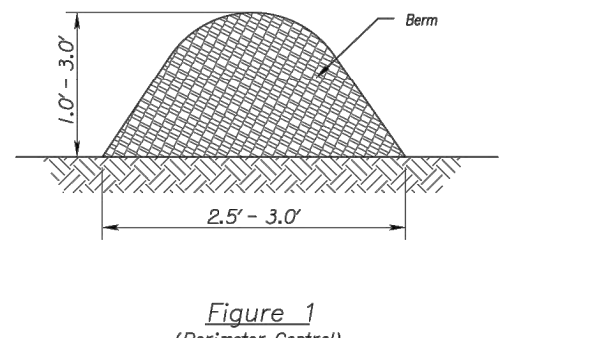
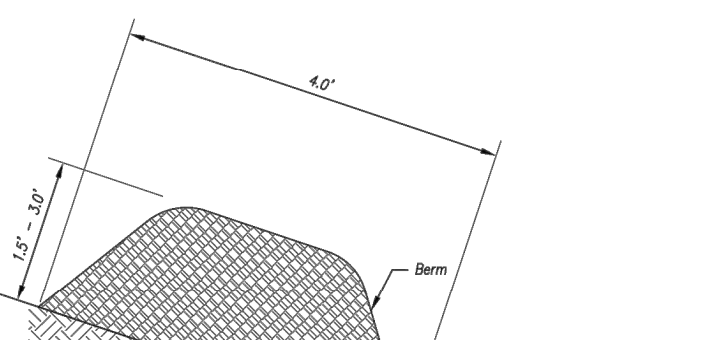

Figure 1
Figure 2
- Parallel to the base of the slope, or around the perimeter of other affected areas, construct a 1 to 3 foot high by 2.5 to 3 foot wide berm (see Figure 1). For maximum water treatment ability on steep slopes, construct a 1.5 to 3 foot high trapezoidal berm that is a minimum of 4 feet wide at the base (see Figure 2). In extreme conditions, or where specified by the engineer, a second berm shall be constructed at the top of the slope. Engineer will specify berm requirements.